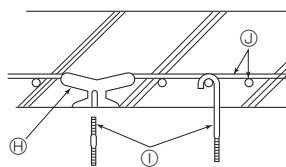

Fig. 2-5
② Ferro-concrete structures (Fig. 2-5)